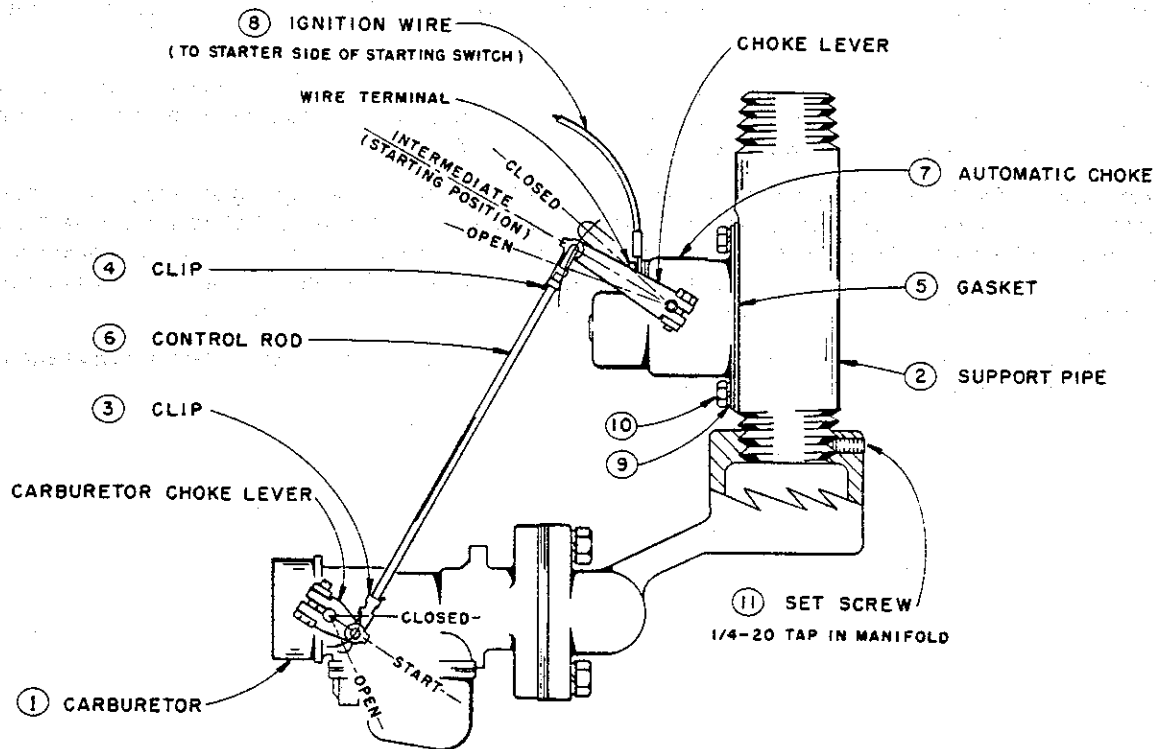

Fig. 1
1. Mount **support pipe** (2) to **exhaust outlet** in manifold, and tighten securely to position shown in Fig. 1. Lock in place with **set screw** (11). It will be necessary to add a $\frac{1}{4}$ "-20 tap for setscrew, if it is not included in present manifold.
2. Mount **automatic choke** (7) to machined surface on **support pipe** (2) with **gasket** (5), **screws** (10) and **lockwashers** (9).
3. Assemble end of **control rod** (6) to the inside of **carburetor choke lever** and secure in place with **retaining clip** (3).
- c. Pull up on **control rod** (6) Fig. 1, so that the **carburetor choke lever** is in the upper, or **closed position**. Retain rod in this position.
- d. Rotate **automatic choke lever** until hole at end of lever lines up with bent end of control rod. (Rod pulled up in closed choke position). Mount control rod to lever by means of **retaining clip** (4).